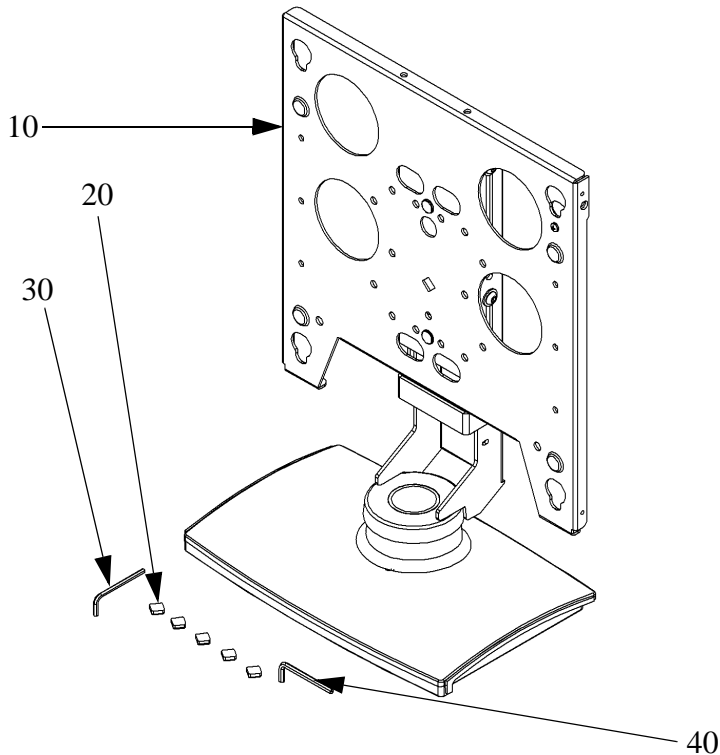

Figure 1. Parts
- 3. Carefully inspect all components for damage (See table 1 and Figure 1).